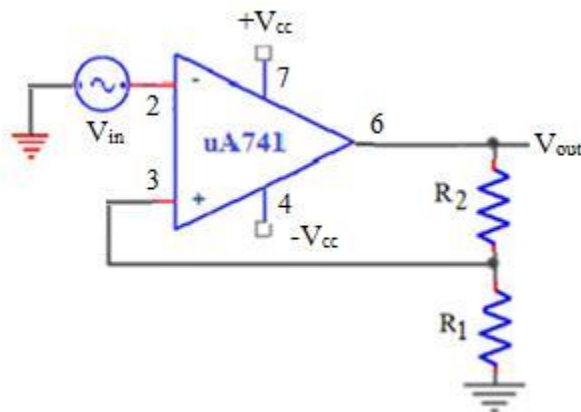

Fig. 6.3: Inverting type Schmitt Trigger circuit with equal UTP and LTP.
[1] To design for  $V_{UTP} = 3V$ ,  $V_{LTP} = -3V$ ; (Refer circuit of Fig. 6.3 )
- [i] Rig up the circuit as shown in Fig. 6.3.